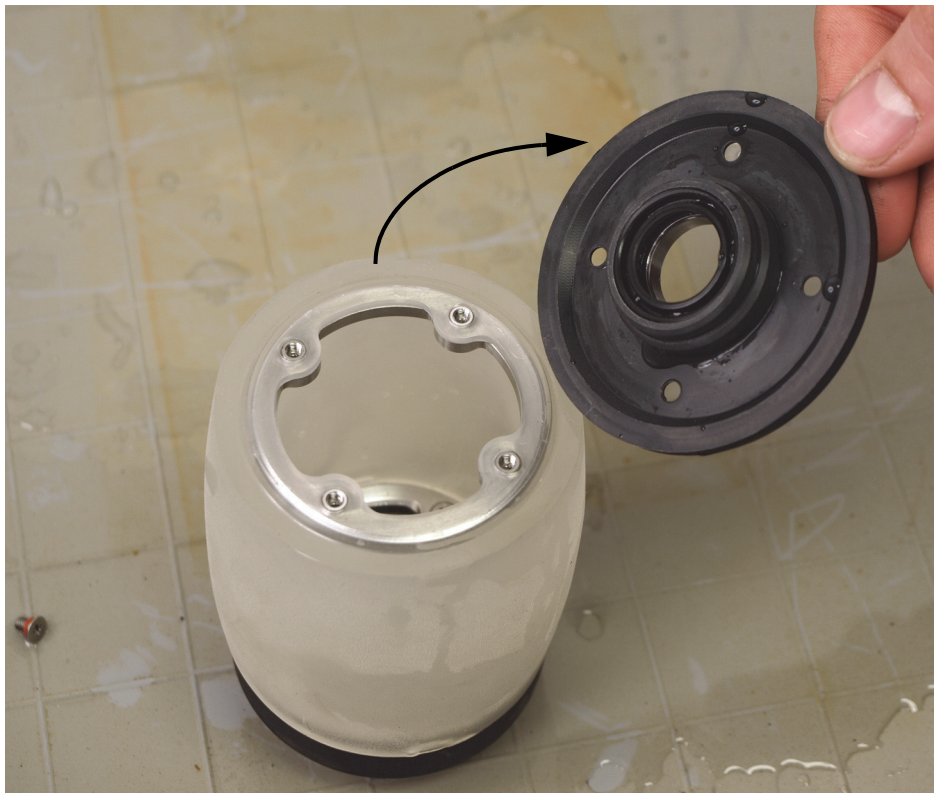

Figure 6-20 Removing the acoustic wheel plain flange
2. Remove the plain flange (Figure 6-20 on page 100).